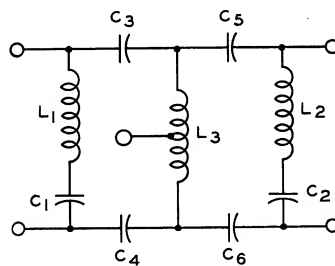

Fig 2. Two-section, series-derived, high-pass filter for a 300-ohm line (Cutoff: approx. 36 Mc).
The circuit and constructional data are given in Fig. 2 for a simple two section, high-pass filter that will work well on most television receivers that are 150 feet or more from an amateur transmitter. For receivers that are closer than 150 feet, or that require more than average filtering, a more elaborate filter may be required. A four-section, high-pass filter that has worked successfully in a number of difficult situations is shown in
*For resonance specification requirements, see note under Fig. 2.